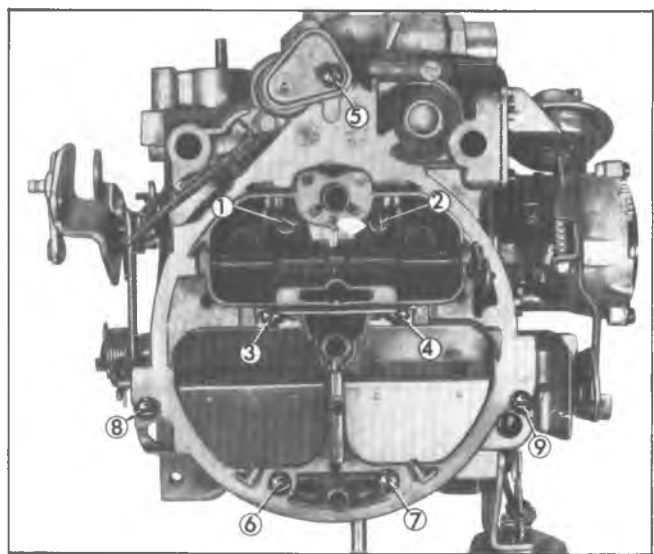

Fig. 5MQ—Removing Air Horn Screws
5. Remove nine air horn to bowl attaching screws; two attaching screws are located next to the venturi. (Two long screws, five short screws, and two countersunk screws). (Fig. 5MQ).